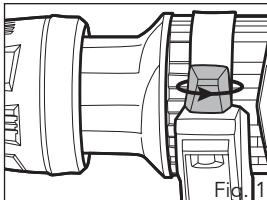

Fig. 1
1. Loosen the depth rod securing nut then insert the depth rod (Fig. 1).
4. Check the SDS-plus accessory is properly secured in the chuck by pulling on the accessory. Note: It should have approx. 10-20mm of movement. This is normal (Fig. 1).